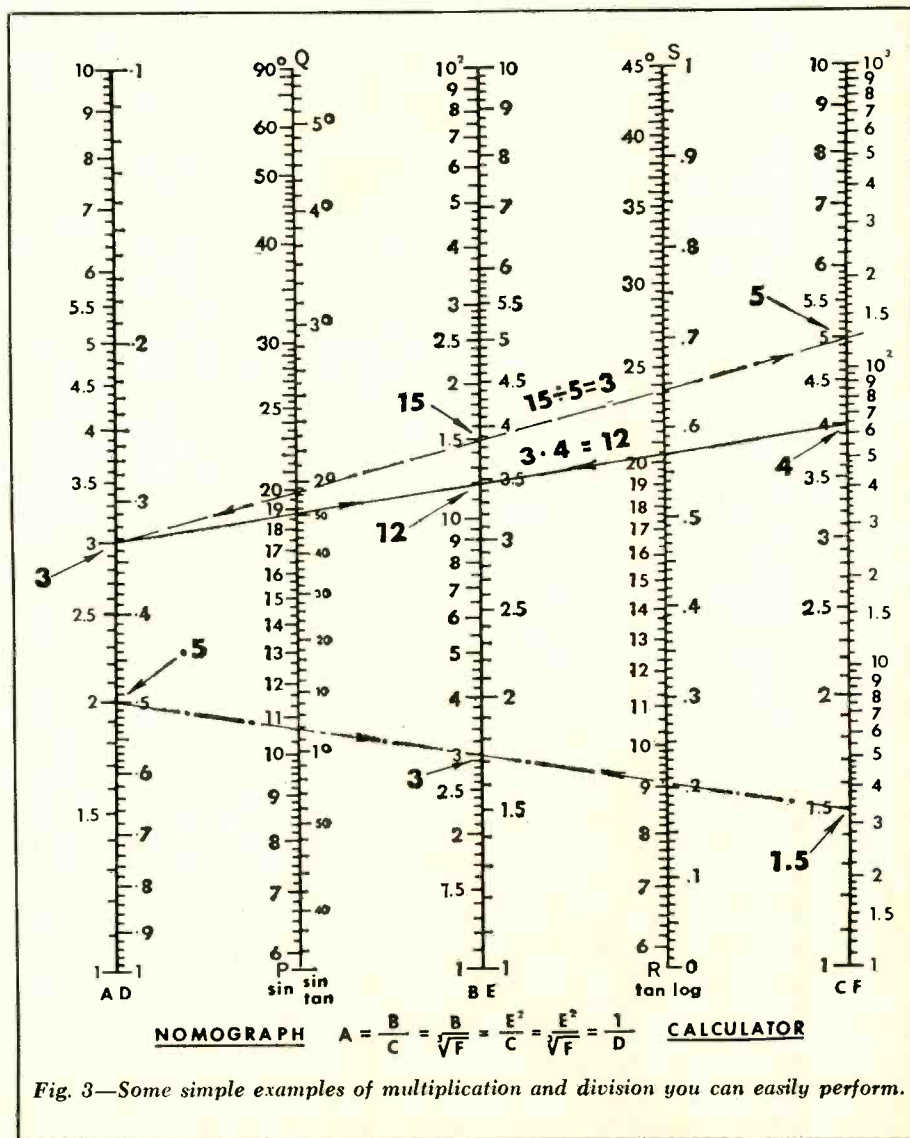

Fig. 3—Some simple examples of multiplication and division you can easily perform.
**Multiplication:** Connect 3 (on A) with 4 (on C) to find 12 (on B). This is shown in Fig. 3, solid line.
**Division:** To find  $15/5$ , intersect 15 (B) with 5 (C) to get 3 (A). This is shown by the dashed line in Fig. 3, and uses the equation  $B/C = A$ . Note that we chose 1.5 on the higher decade of B, above the 10, so it actually represents 15. Another way to divide is to apply the equation  $B = C/D$  mentioned earlier. Intersect 1.5 (C) with 0.5 (D) to obtain 3 (B) shown by the dot-dash line.